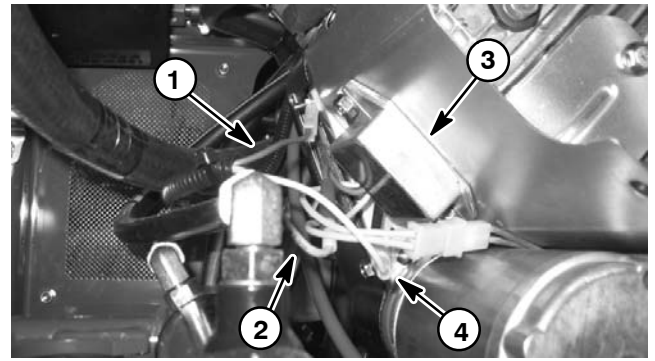

Figure 10
9. Disconnect machine wire harness from engine as follows (Fig. 10):
12. Remove four (4) flange head screws that secure intake elbow to carburetor. Remove two (2) gaskets and intake manifold. Discard gaskets. Remove and discard intake gasket from between intake elbow and carburetor. Make sure that all gasket material is removed from carburetor and intake elbow.
7. Connect machine wire harness leads to engine as follows (Fig. 10):